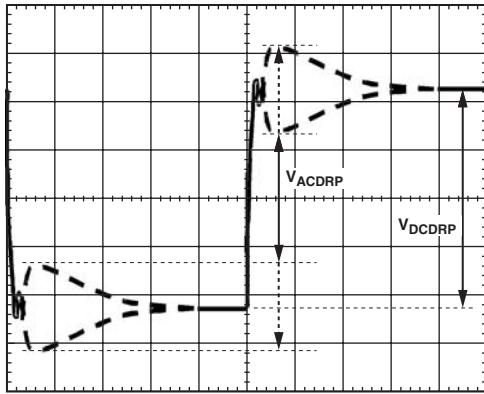

Figure 8. AC Loadline Waveform
15. This waveform should look something like Figure 8. Use the horizontal cursors to measure V_{ACDRP} and V_{DCDRP} as shown. *Do not measure the undershoot or overshoot that happens immediately after the step.*